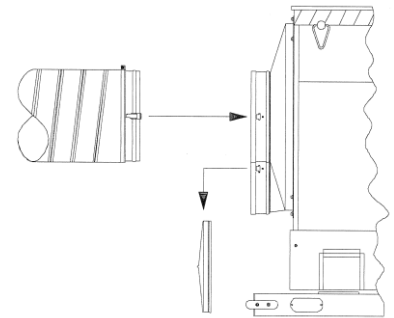

FIGURE 6
2. Place air duct in aircraft and ensure that the opening is unobstructed. Remove yellow output air duct from their storage compartment located under the unit. Remove yellow dust caps from the input and output duct openings located on the back of the air conditioner and place in the storage compartments. Attach yellow output air duct to the air conditioner via the duct openings located on the back of the air conditioner. **See Figure 6.** Place other end of yellow duct into the aircraft.